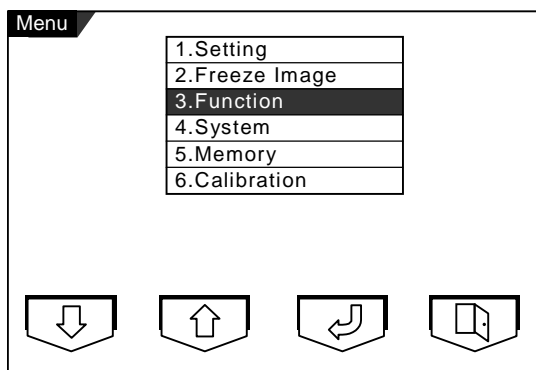

Figure 1
- 2) Select '3. Function' with and press . (Figure 1)